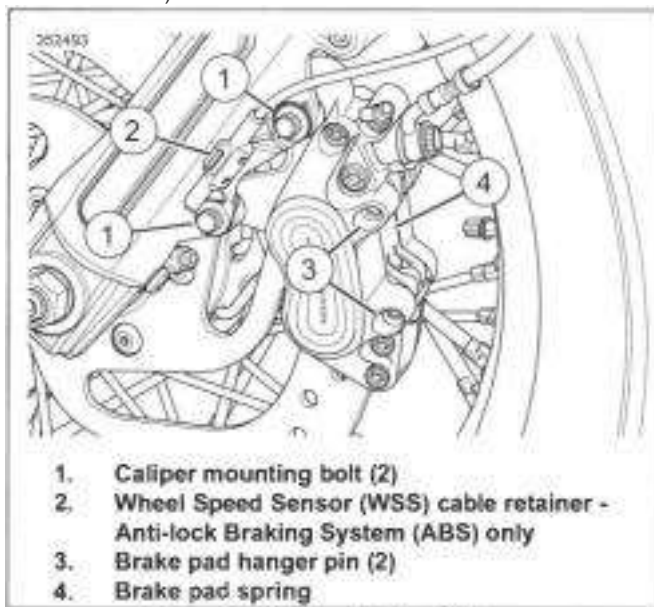

Figure 2-18. Front Brake Caliper
- 2. See Figure 2-18. Remove brake pad hanger pins (3).
- 4. Remove brake pad spring (4).
See **Figure 2-18. Brake pad spring (4) must be installed with the stamped arrow facing up.**
- 2. Loosely install new brake pad hanger pins (3) and new brake pad spring (4).